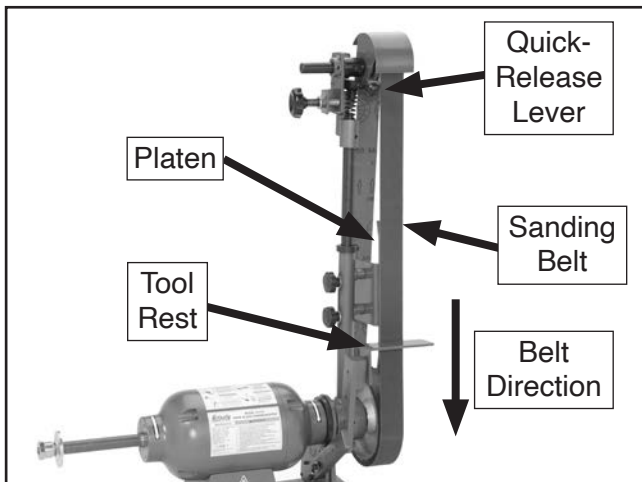

Figure 28. Sanding belt installed.
- With the direction arrows printed on the inside front of the belt facing down, wrap the belt around idler and drive wheels so that it is centered on both, as shown in **Figure 28**.
Note: To prevent the belt seam from catching on the workpiece, install the belt so that the direction arrows printed on the inside face of the belt follow the belt rotation, as shown in **Figure 28**.
- Adjust the platen (see **Figure 28**) so that it is centered behind the belt.
- If needed for your operation, adjust the tool rest position (see **Figure 28**) as required. Make sure that it is no more than $\frac{1}{16}$ " away from the sanding belt to prevent the workpiece being trapped between the tool rest and belt.